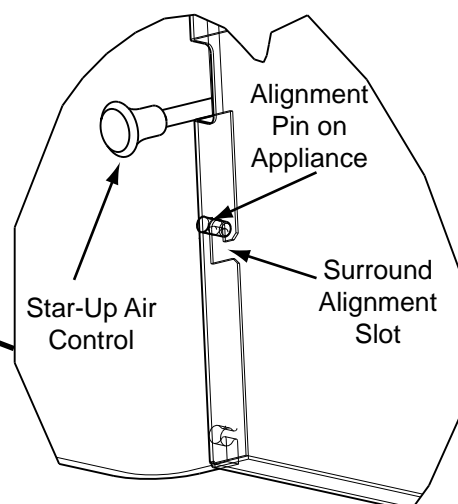

Figure 42.3
7. Align the surround slots to the lower pins on the appliance, one on each side. **Figure 42.3**